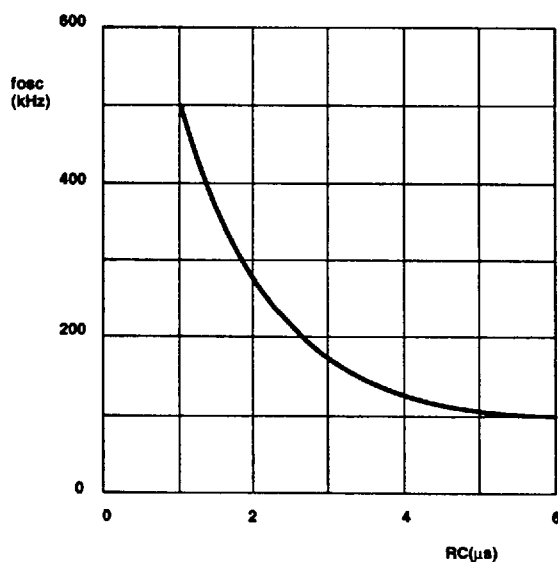

Figure 16. Frequency as a Function of RC
1.7.2 RC Oscillator (see Figure 16)